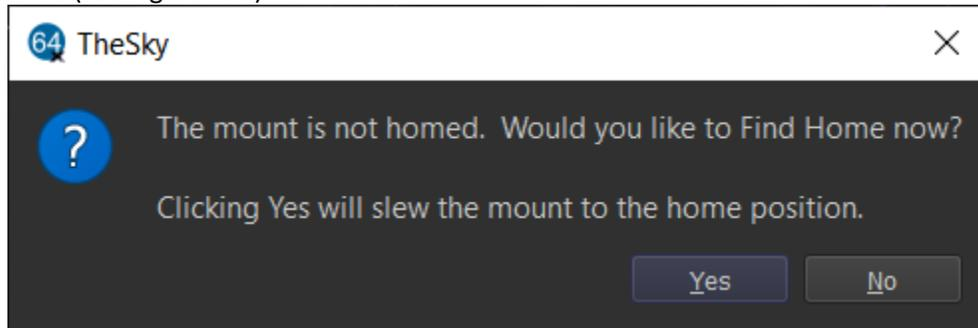

Figure 109: Slewing the mount to the home position is *not* required when measuring the motor index angles.
6. Click **Telescope, Connect**. When prompted if you want to slew the mount to the home position, click **No** (see Figure 109).